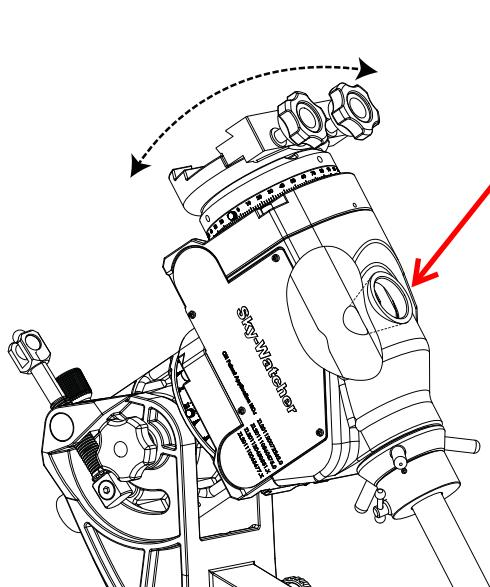
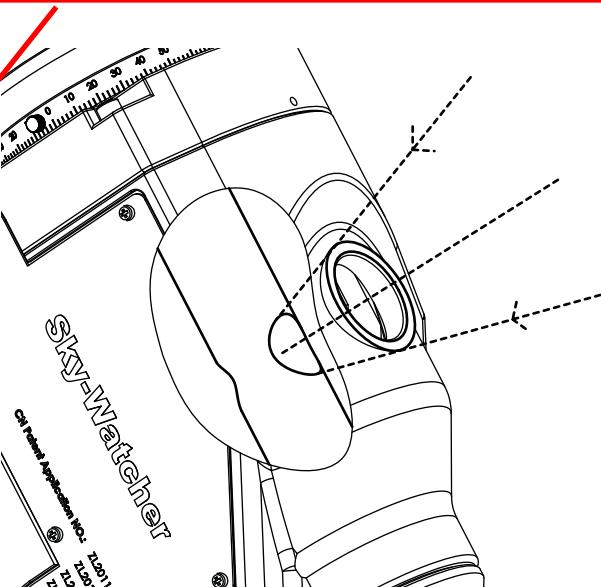

Fig. 3.1a
Fig. 3.1b
3. Remove the polar scope cap on the mount, loosen the Dec. clutch, and rotate the Dec. axis to allow the hole on the Dec. shaft to fully open for the polar scope and then lock the Dec. clutch again. (Fig. 3.1a & Fig. 3.1b) **3. 去掉赤道仪上的极轴镜盖，松开赤纬轴锁定装置，转动赤纬轴直到上面的极轴镜观察口充分打开然后再次锁紧赤纬轴锁定装置。**